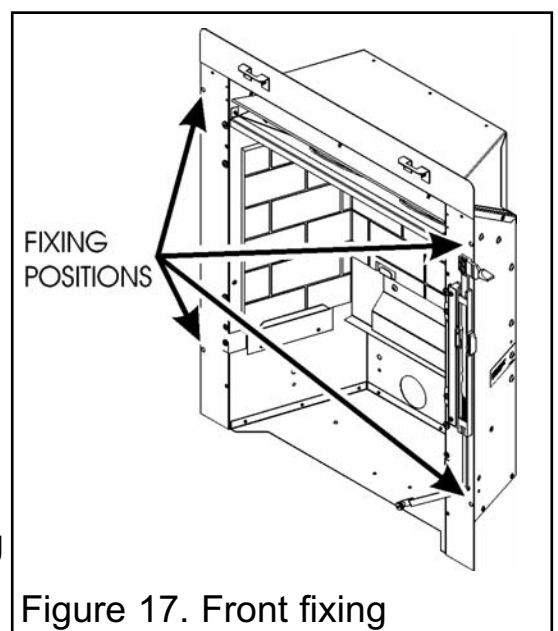

Figure 17. Front fixing
3. Mark the fireplace front surround through the four fixing holes in the side flanges of the convector box (See figure 17).